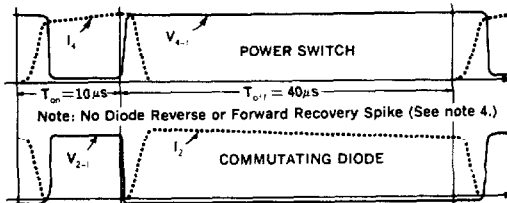

Figure 2. PIC645, 646, 647 Switching Waveforms
- No reverse recovery spike generated by commutating diode (See note 4. and Fig. 2.)
- In switching an inductive load, the current will lead the voltage on turn-on and lag the voltage on turn-off (see Figure 2). Therefore, Voltage Delay Time ($t_{DVI} \approx t_{di} + t_{ri}$ and Current Storage Time ($t_{st} \approx t_{sv} + t_{fv}$).
- As can be seen from the switching waveforms shown in Figure 2, no reverse of forward recovery spike is generated by the commutating diode during switching! This reduces self-generated noise, since no current spike is fed through the switching regulator. It also improves efficiency and reliability, since the power switch only carries current during turn-on.